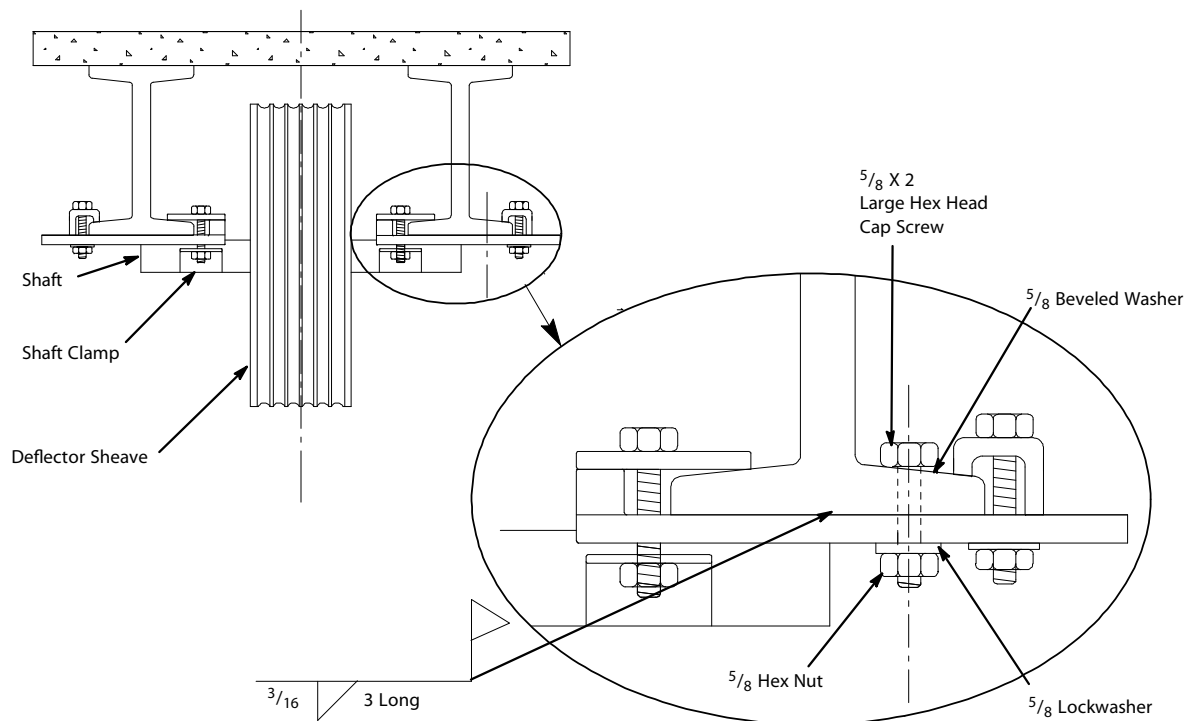

Figure 12 - Shaft Clamps to Machine Beams
7. With the sheave bolted into final position, drill one (1) $21/32$ " diameter hole through each clamp plate and beam flange. See Figure 12.